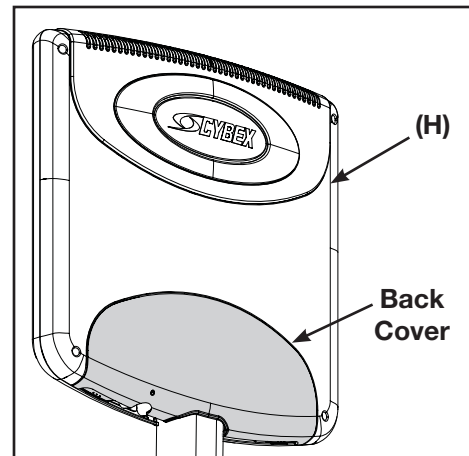

Figure 26
- H. Install the back cover to the monitor (H). See Figure 26.